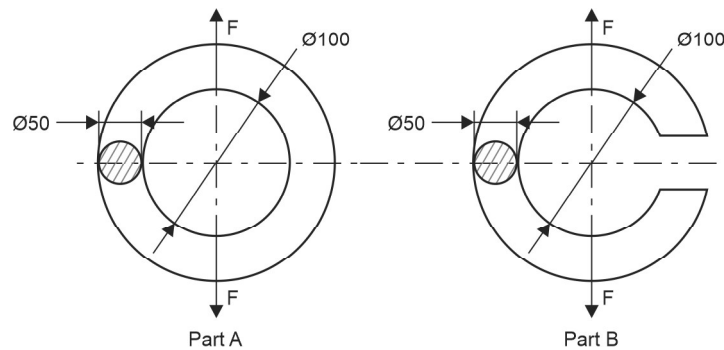

Fig. M1.32
b. A closed ring is made up of 50 mm diameter steel bar having allowable tensile stress of 200 MPa. The inner diameter of the ring is 100 mm. For a load of 30 kN, find the maximum stress in the bar and specify the location. If the ring is cut as shown in **part B** of **Fig. M1.32**, check whether it is safe to support the applied load. (12 Marks)